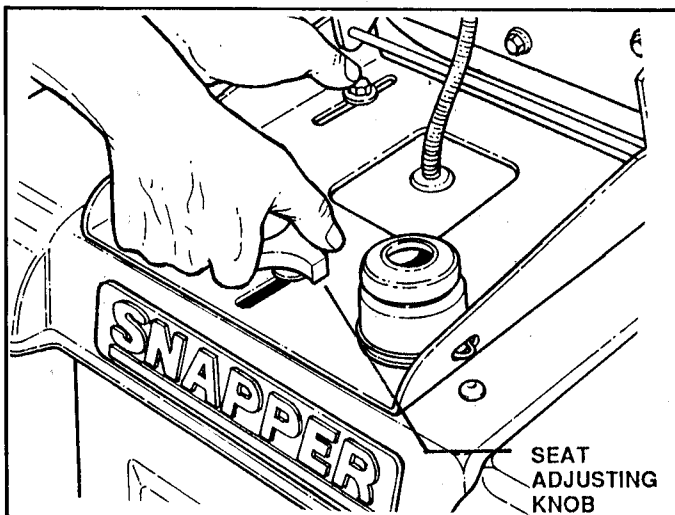

FIGURE 8
- RE-ADJUST SEAT as needed to most comfortable position. (Refer to Page 6, Figure 8).
FORE & AFT ADJUSTMENT: With machine stopped, loosen the ADJUSTING KNOB on seat support. Sit in operator's seat and, while depressing the CLUTCH /BRAKE PEDAL, slide the seat forward or rearward to the most comfortable position, then lock in position by tightening ADJUSTING KNOB. See Figure 8.